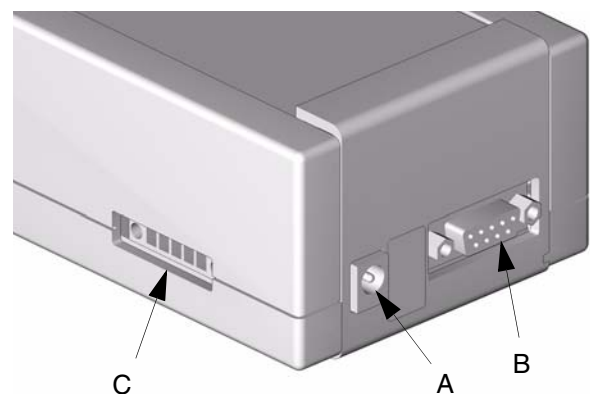

FIG. 3
- Transceivers use a power transformer plugged into the power connector (A). See FIG. 3.
- The serial port connector (B) is used for the Transceiver to PC cable connection when RS232 cable is used to connect the transceiver to the Matrix PC. See **Transceiver Connection/Wiring** on page 6.
- The serial port connector (C) is used for the Transceiver to PC cable connection when RS422 cable and convertor is used to connect the transceiver to the Matrix PC. See **Transceiver Connection/Wiring** on page 6.
3. Plug and screw in the connector into the RS422 connection located on the transceiver (C). See FIG. 3.